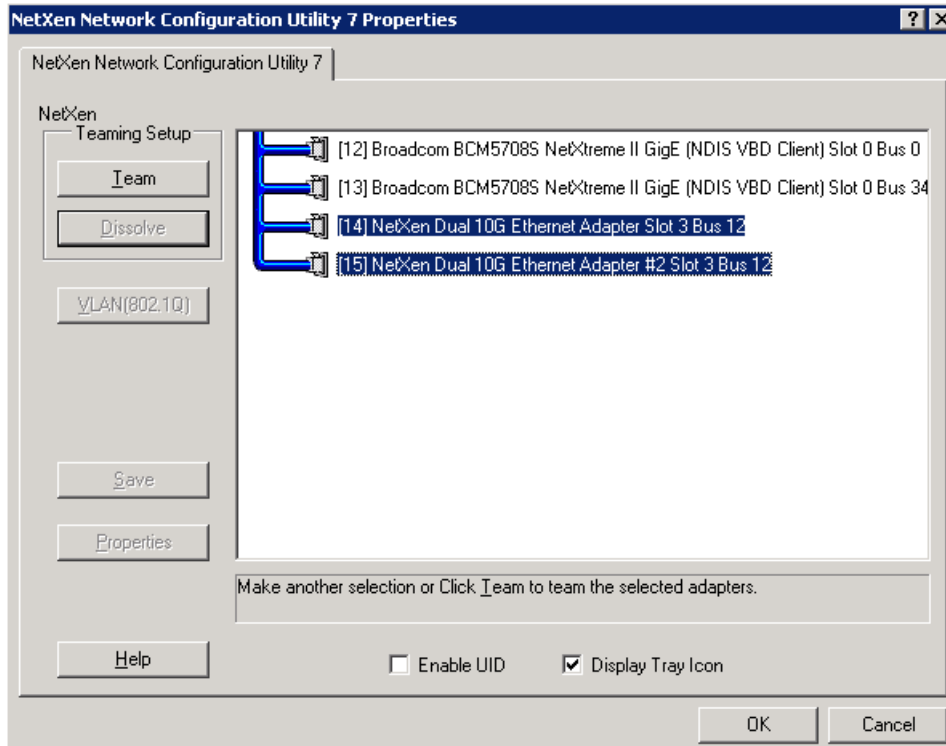

Figure 5-15 NetXen Teaming Setup window, note the Display Tray Icon
1. Open the property screen of one of the installed NetXen 10 Gb adapters in the Network Connections window by right clicking the icon, and highlight **NetXen Network Configuration Utility 7**. Click **Properties** to open the Configuration Utility. Or double-click the NetXen Network Configuration Utility 7 icon that has been placed in the Windows Taskbar. Either action opens the Configuration Utility window shown in Figure 5-15 on page 73.